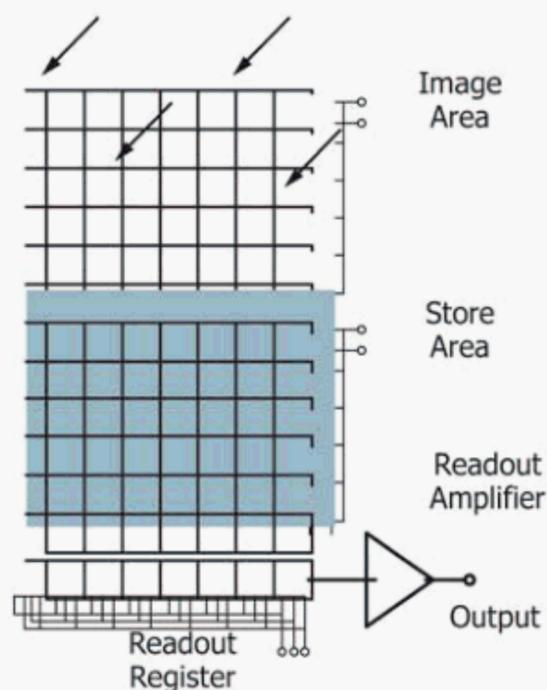

FIG. 7 Typical Sketch of a Frame-Transfer CCD
**frame-transfer CCD, *n***—a type of CCD whose active image area is divided into two sections, that is, image area and the storage area. The image area is the light sensitive area of the CCD and the storage area is masked to make it insensitive to light (see Fig. 7).